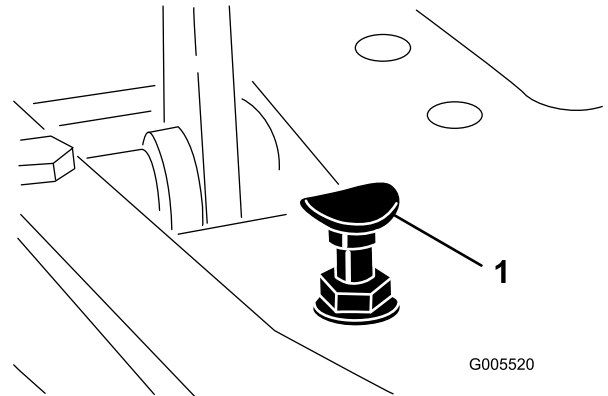

Figure 47
press down on the traction pedal. If the pedal contacts the stop (Figure 47) before you feel tension on the cable, perform the following adjustment procedure:
1. Put the functional-control lever in the TRANSPORT position and loosen the locknut securing the pedal stop to the floor plate (Figure 47).